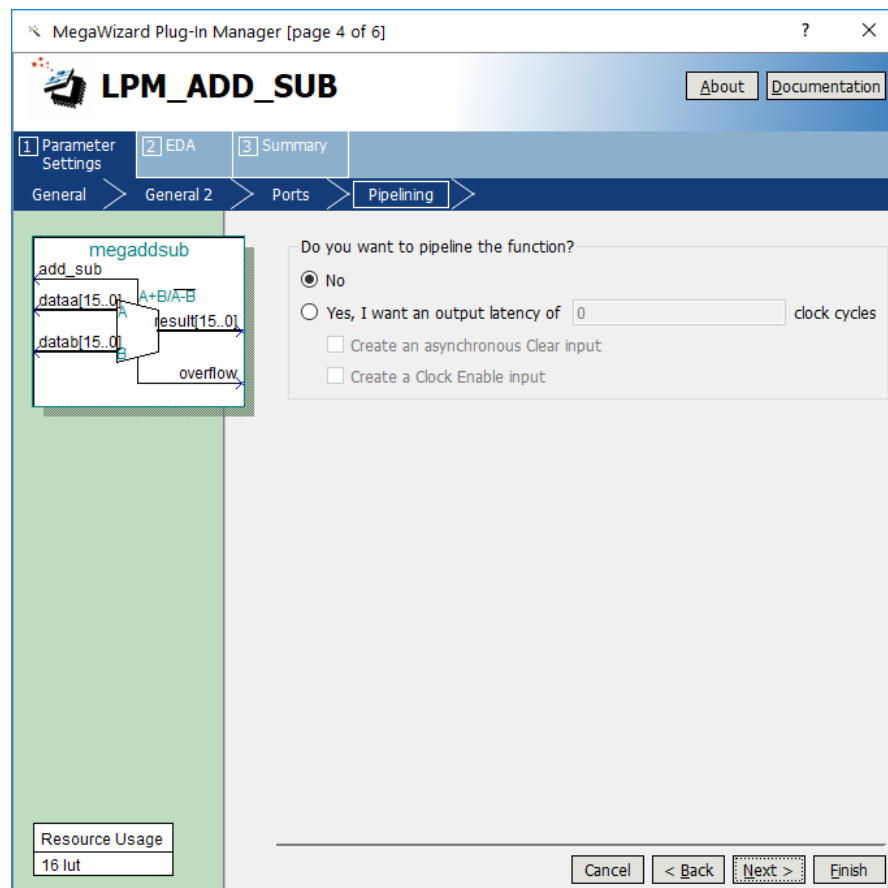

Figure 9. Refuse the pipelining option.
7. In the box in Figure 9 say **No** to the pipelining option and click **Next**.